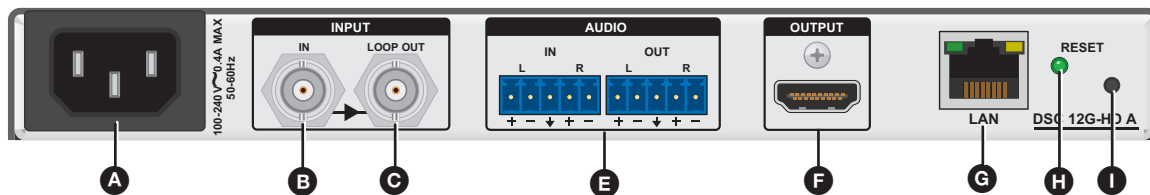

Figure 3. DSC 12G-HD A Rear Panel
Figures 3 and 4 show the rear panel features of the DSC 12G-HD A and DSC HD-12G A, respectively.
- H Reset LED** — This green LED remains lit while the unit has power. While the **Reset** button (see figures 3 and 4, **I** on page 6) is being pressed and held, this LED blinks every 3 seconds to indicate the level of reset initiated if the button is released at that point (see Resetting starting on page 32 for more information).